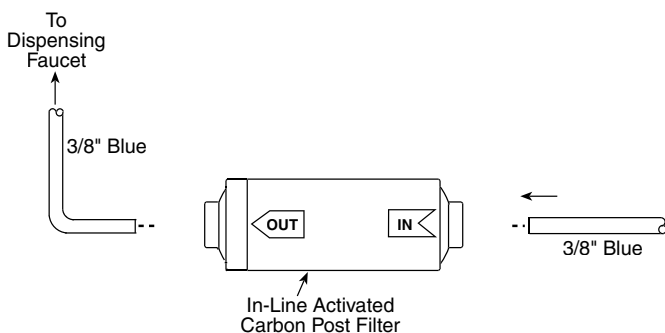

Figure 5
4. Firmly reconnect the polytubes to the new Post Filter. (Refer to Fig. 5). Make sure the tubing is pressed all the way in to create a pressure tight connection.